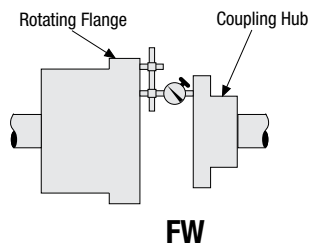

Figure 1. Angular alignment.
5. After preliminary alignment, secure a dial indicator to the adapter flange and indicate face of the coupling hub as shown in figures 1 and 2.